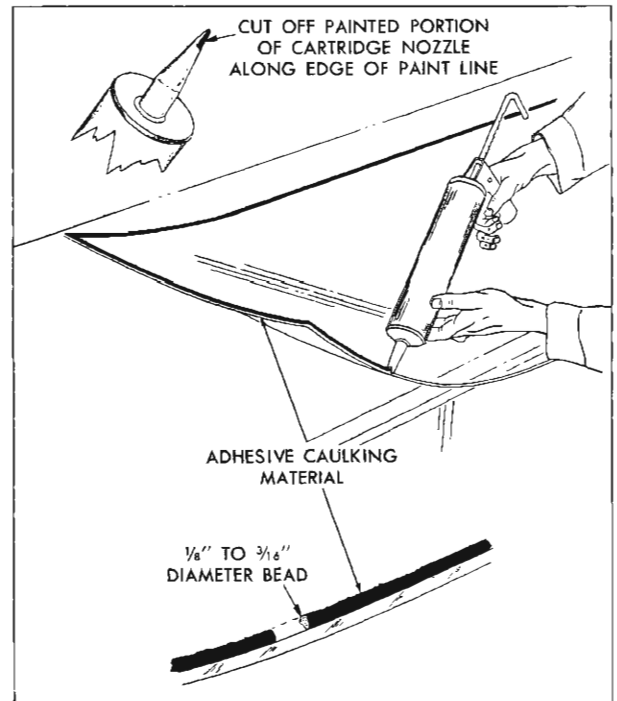

Fig. 11-19 Adhesive Application
4. Cut off painted tip of cartridge nozzle along edge of paint line (Fig. 11-19).
6. Carefully apply a smooth continuous bead of caulking material on inside surface of glass next to edge completely around glass (Fig. 11-19). Caulking material should be between  $\frac{1}{8}$  to  $\frac{3}{16}$  of an inch in diameter.